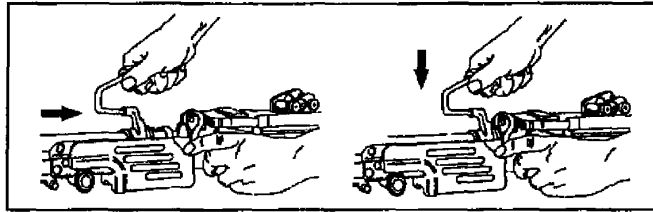

Figure 071-312-4025-26. Replacement of the barrel
(1) Depress the barrel locking lever with your left hand (figure 071-312-4025-26).